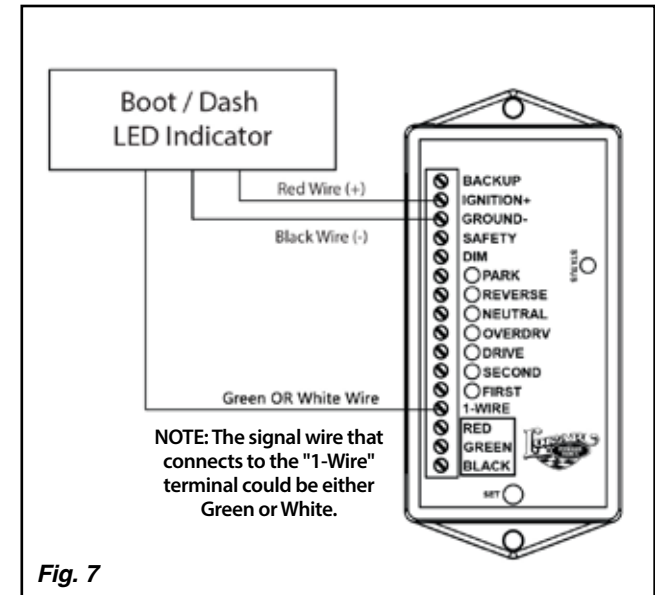

Fig. 7
Step 10: Connect the indicator wiring harness to the decoder box or control module. Fig. 7 Make sure the wires are not routed next to any sharp edges.
Step 7: Connect the indicator wiring harness to the decoder box or control module. Fig. 7 Make sure the wires are not routed next to any sharp edges.